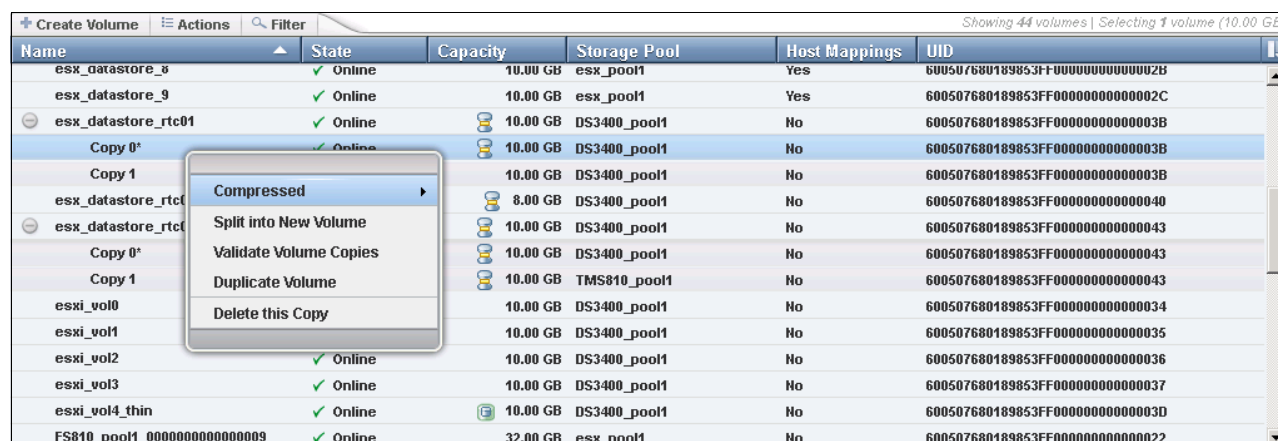
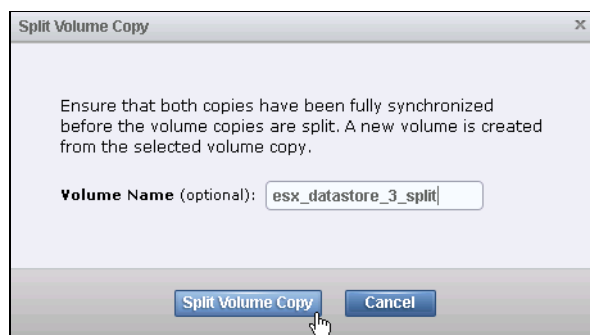
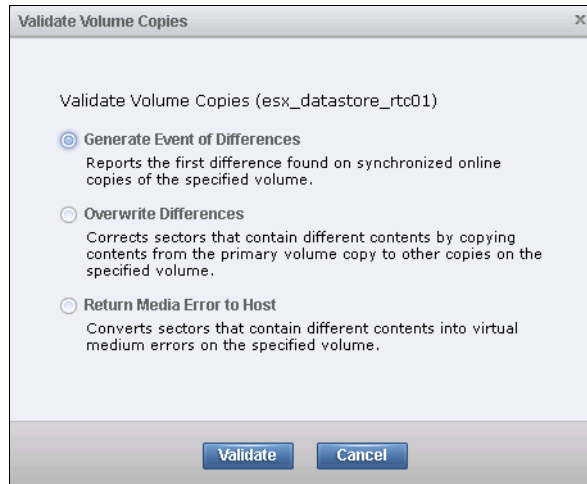
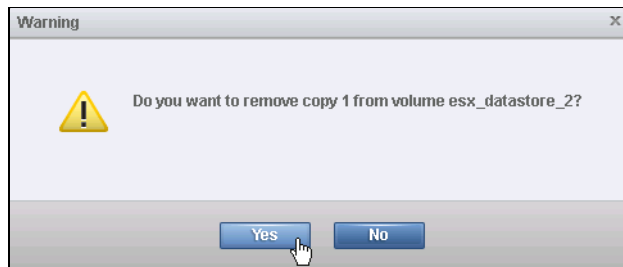

Figure 8-115 Advanced volume copy functions
Figure 8-120 Split Volume Copy window
Figure 8-122 Validate Volume Copies window
Figure 8-125 Deleting a copy
In 8.4.1, “Advanced volume functions” on page 253, we describe all the available actions at a volume level and how to create a second volume copy. In this section, we focus on volumes consisting of two volume copies. If you expand the volume and highlight a copy, more volume copy actions become available (Figure 8-115):
If you look at the volume copies shown in Figure 8-115 on page 279, you notice that one of the copies has an asterisk (*) next to its name (Figure 8-116).
To split a copy, click **Split into New Volume** (Figure 8-115 on page 279). If you perform this action on the primary copy, the remaining secondary copy automatically becomes the primary for the source volume. Enter a name for the new volume and click **Split Volume Copy** (Figure 8-120).
1. Select **Validate Volume Copies** (Figure 8-115 on page 279). The Validate Volume Copies window opens (Figure 8-122).
To delete a volume copy, select **Delete this Copy** (Figure 8-115 on page 279). The copy is deleted, but the volume remains online by using the remaining copy. Confirm the deletion process by clicking **Yes** (Figure 8-125).